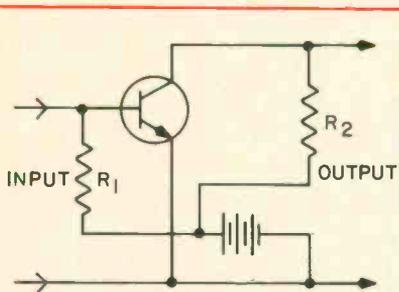
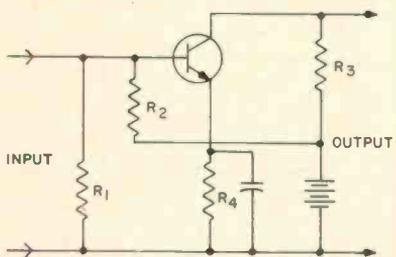

Fig. 1 — Simplified grounded-emitter amplifier circuit with fixed bias.
Fig. 4 — This grounded-emitter amplifier has a stabilizing resistor (R4) in the emitter circuit.
The complete color section is shown in Fig. 1. Two NPN transistor stages represent the color IF amplifier which accepts the color signal, amplifies and presents it to the demodulators where synchronous detection takes place. These two stages are typical bandpass amplifiers tuned to pass only the color signal (3.58MHz) and its sidebands up to  $\pm 500$ kHz.
He knows at a glance (see Fig. 1) what a "fixed bias" arrangement is in a grounded-emitter circuit. Because of variations in transistors, however, he is aware that critical base-current characteristics and the sensitivity of transistors to temperature changes make this arrangement undesirable. The "self-biasing" arrangement (Fig. 2) is better — except that amplifier gain is reduced somewhat in this case. So, in most well-designed transistor grounded-emitter circuits the two arrangements shown in Fig. 3 and Fig. 4 are better and more often seen in high quality equipment circuits. But our technician is also thoroughly familiar with other bias stabilizing methods used in modern audio amplifiers — including the "split" voltage divider, thermistor and diode stabilizing networks.
A thorough understanding of capacitors and coils is required before varicap functions can be comprehended, and to help the reader review or develop these fundamentals last month's article explained the voltage-current relationships that occur in these components. As indicated in Fig. 1, the phase angle of current flowing through capacitor leads (represented by dashed lines) is 90deg ahead of the applied voltage (shown as solid lines).
Fig. 1 — The phase angle of current flowing through a capacitor's leads (dashed curves) is 90deg ahead of the applied voltage (solid curves). The current increases as the frequency of the applied voltage increases from a lower (A) to an intermediate (B) to a higher (C) frequency.
In Fig. 1 we see that as the frequency ( $f$ ) of the applied voltage increases, the capacitor's reactance decreases and more current flows through its leads. (The upper pair of curves (A) in Fig. 1, 4, 5 and 8 represent a lower frequency than the center pair of curves (B), while the lower pair of curves (C) represent a higher frequency.)